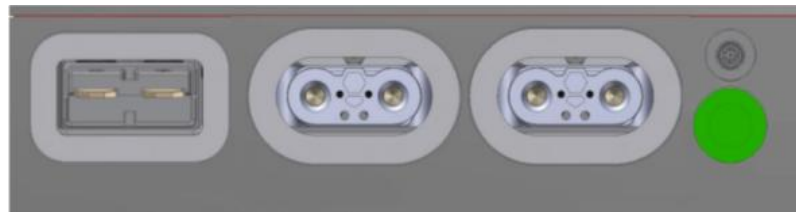

Figure 24: Circular LED is illuminated, battery is ON but not ready for use.
2. After turning on the battery, the circular LED will illuminate. Wait at least 30 seconds for the battery to complete the bootup sequence (Figure 24).
- b. If the circular LED illuminate, wait at least 30 seconds for the battery to complete the bootup sequence (Figure 24)
3. If the discharge port is not illuminated after the bootup sequence (Figure 24), restart the battery 2 more times or proceed to Section 5.3.